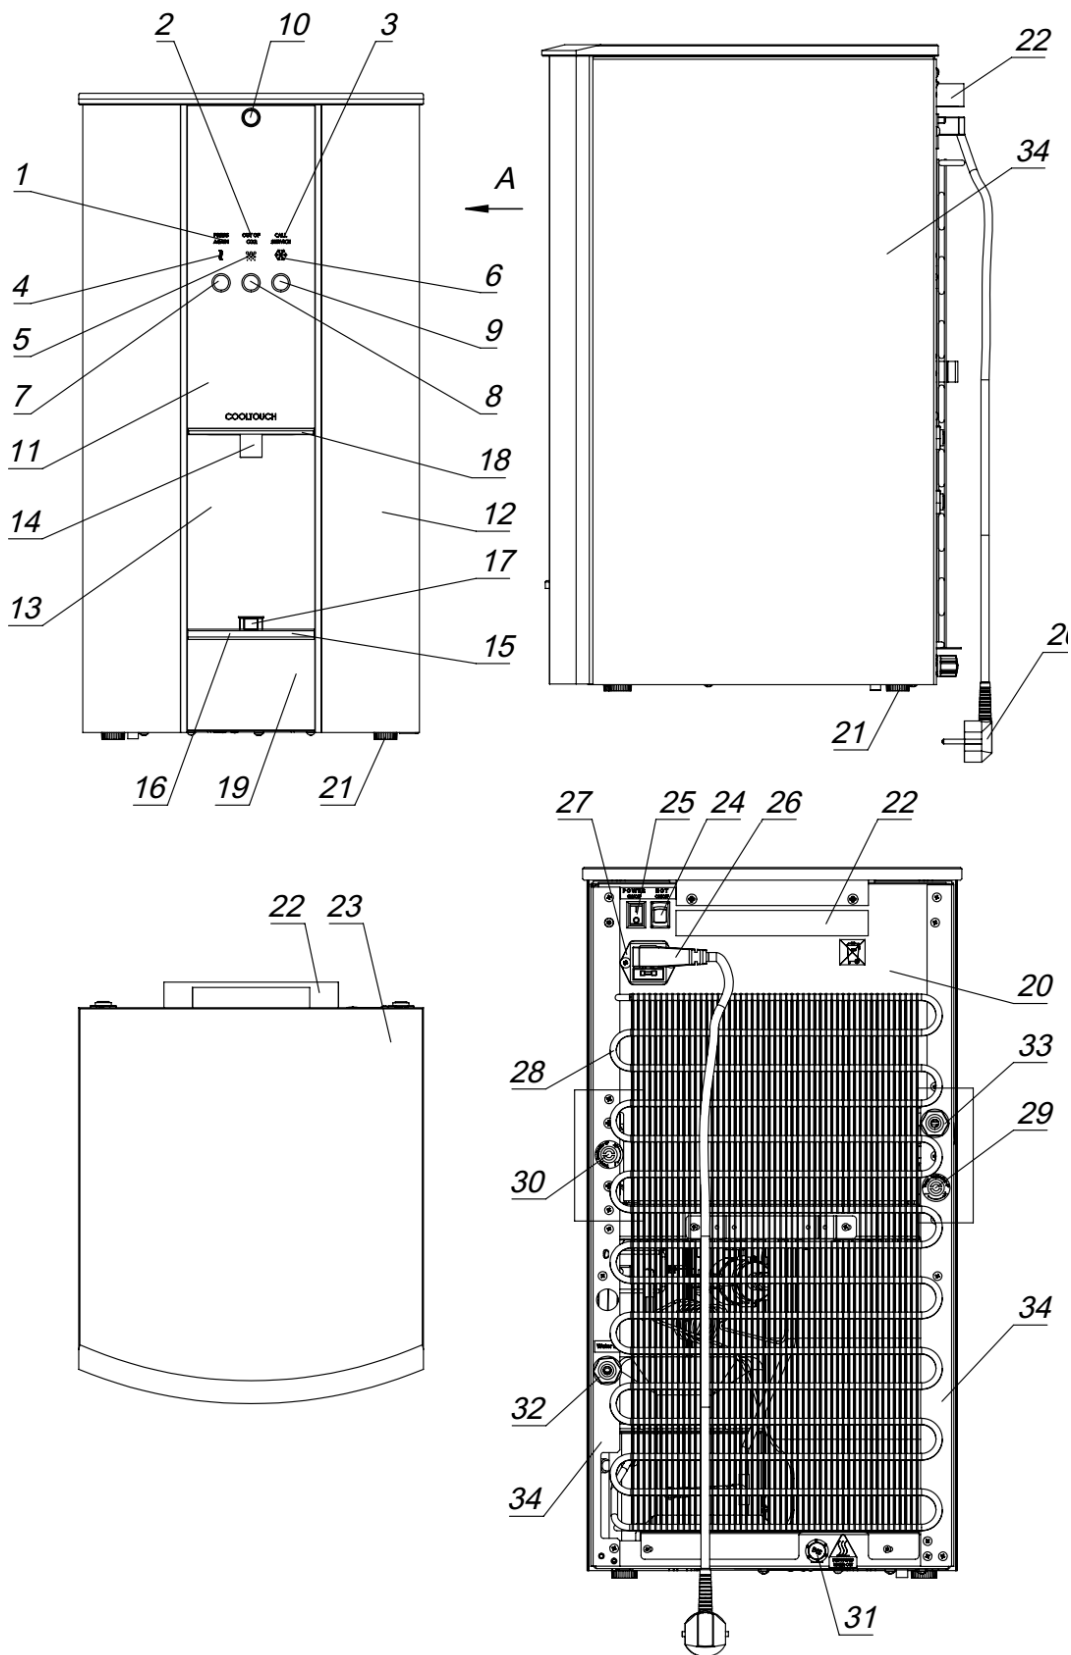

Fig. 2. Accessories for model CTP-03\*-CHS-S-V20-2C
To level the water dispenser, the device has adjustable feet pos. 21 Fig. 2.
To lift and move the water dispenser, use the handle pos. 22 on the back of the device and the stop for moving pos. 18 Fig. 2 on the front.